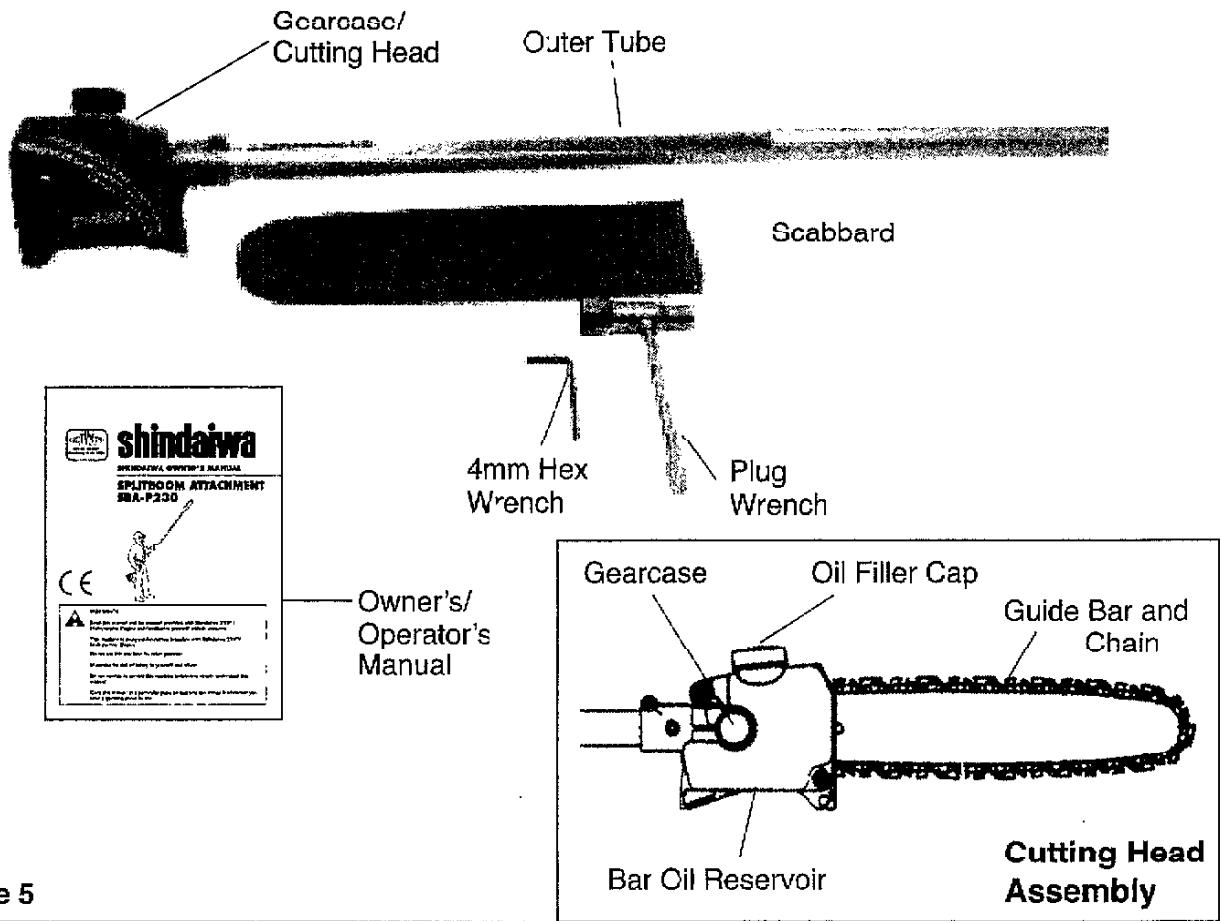

Figure 5
Using Figure 5 as a guide, familiarize yourself with the Shindaiwa Splitboom Attachment SBA-P230 and its various components. Understanding your machine helps ensure top performance, longer service life, and safer operation.
1. Place 230PH Multipurpose Engine and Splitboom Attachment SBA-P230 on a clean, flat surface so that both assemblies fit end to end. The powerhead assembly should be facing up, and the Splitboom Attachment SBA-P230 should be positioned with the locking hole in the tube end facing up. See Figure 5.